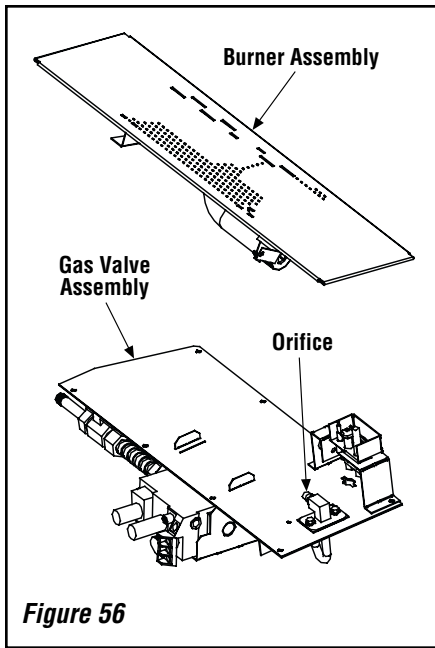

Figure 56
Step 4. Refer to *Figure 56*. Remove the burner assembly with attached venturi tube.
Step 8. (Refer to **Figure 56**)